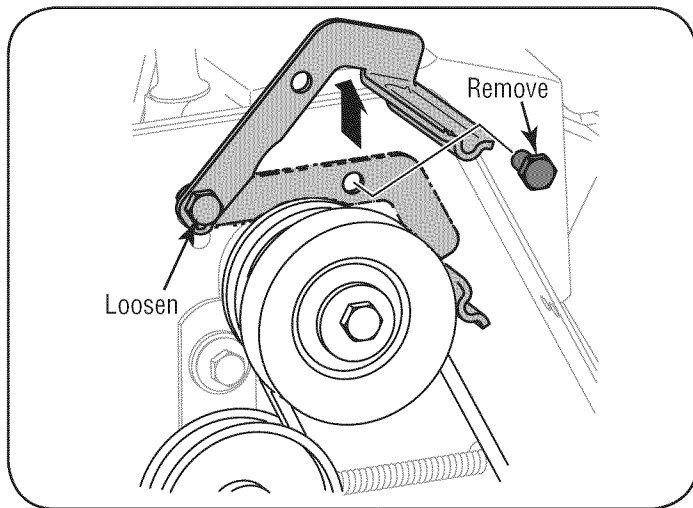

Figure 31
- Loosen the bolt shown in Figure 31 securing the belt keeper bracket and remove the other bolt. Push the belt keeper and bracket up off the engine pulley.